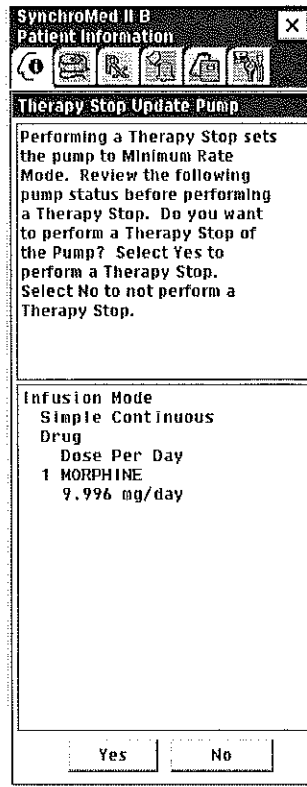

Figure 59. Therapy Stop Update Pump dialog box.
9. Select the OK button. A message appears (Figure 59).